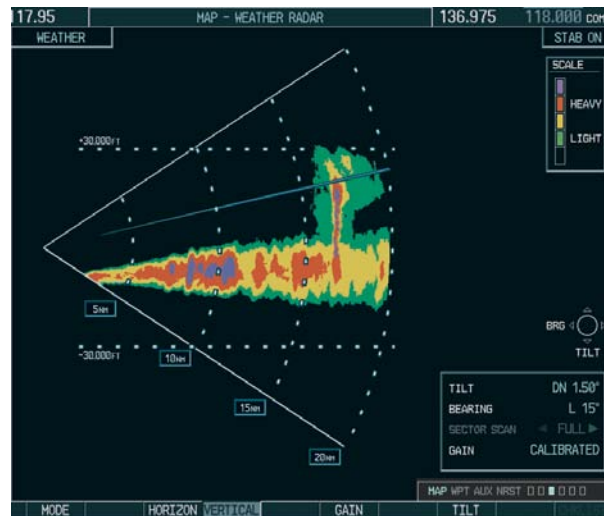

Figure 6-61 Vertical Scan Display
- 4) Press the **VERTICAL** Softkey. A vertical scan of the selected area is displayed (Figure 6-61).